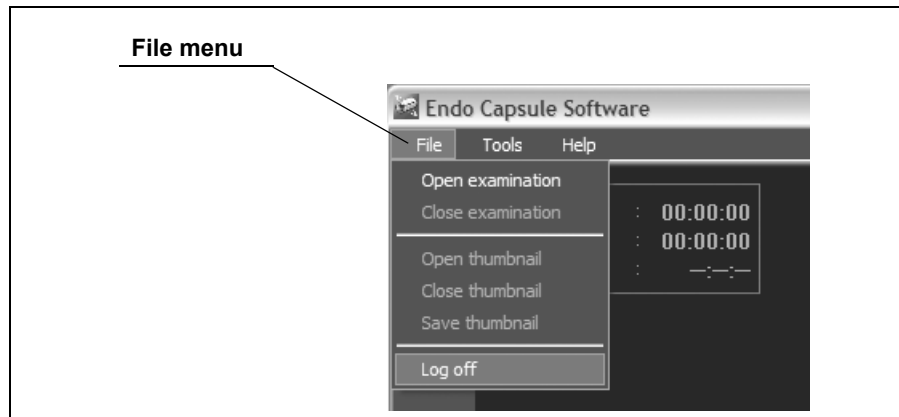

Figure 4.37
1. Select "Log off" from the "File" menu on the main screen (see Figure 4.37).